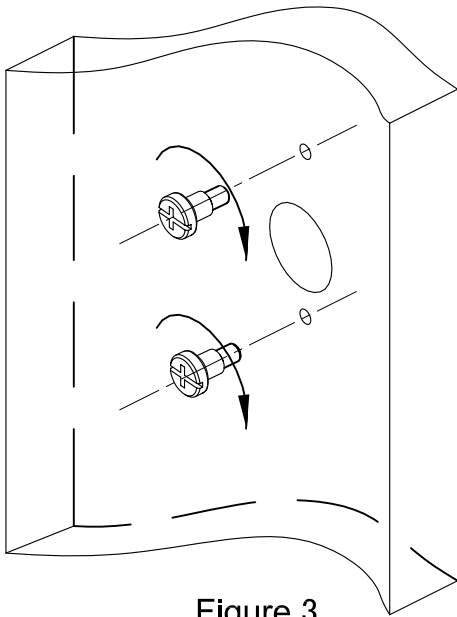

Figure 3
2. Use the two 8-32 mounting screws to mount onto the door. (Figure 3)